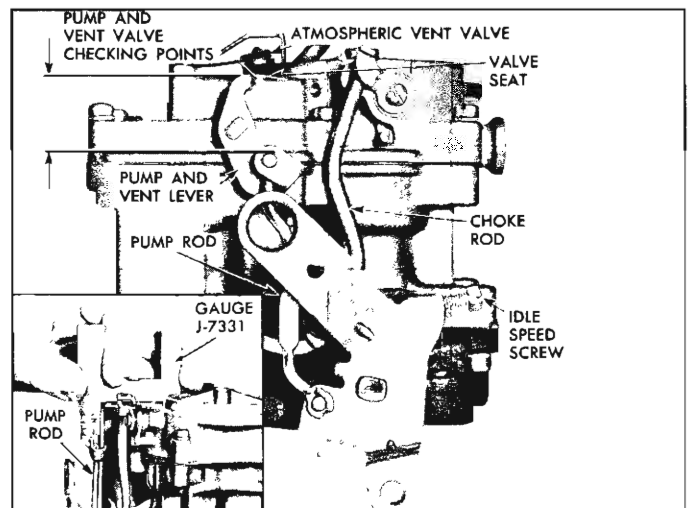

Fig. 17—Checking Pump Rod Position
2. Holding throttle valves closed, check the distance from the top of the pump housing on the air horn with gauge J-7331 as shown in Figure 17. This distance should be  $5\frac{7}{64}$ ".